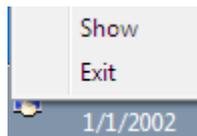

Figure 3-37
2) Right click Touch Service icon on the taskbar and choose "Exit" (Figure 3-37).